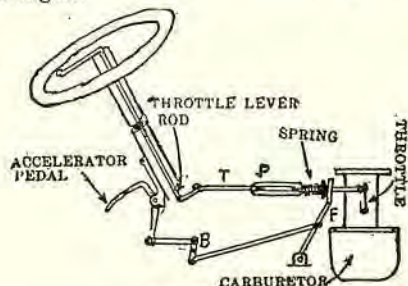

Fig. 16
The butterfly throttle valve is the type of throttle used on almost all makes of carburetors. This type of throttle is shown in Figs. 13 and 9. The mechanism and method for controlling the throttle is shown in Fig. 11, page 33 and in Fig. 16, this page.
The accelerator consists of a foot pedal which opens and closes the carburetor throttle valve independently of the hand-throttle lever. By referring to the illustration (Fig. 16), it will be noted that the accelerator will operate the throttle of the carburetor without moving the hand-throttle lever, by an arrangement as shown. When the foot-accelerator pedal is depressed, the rod (F) moves against a shoulder which is fastened to the throttle shaft. The end of the shaft (T) works free in a turnbuckle (P). Thus the throttle can be opened without disturbing the hand lever, or the hand lever can be operated without moving the foot pedal. The accelerator is used more than the hand-throttle lever. Its purpose is the same as the hand-throttle lever on the steering wheel: to open and close the throttle valve.